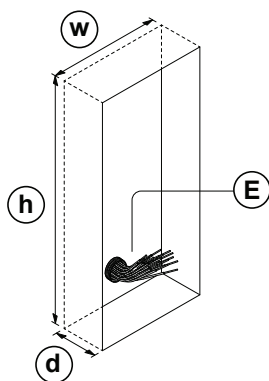

Fig. 60
2. Using the flush box (C) and the hole dimensions (**w=120mm x h=263.2mm x d=46mm**), as shown in **Fig.60**, use appropriate tools to cut out the recommended hole size in the wall (where required it may be necessary to wear the appropriate clothing, e.g. protective gloves and eye protection, when doing this). Remember to allow room for the connecting cables (E) (**Fig.60**);